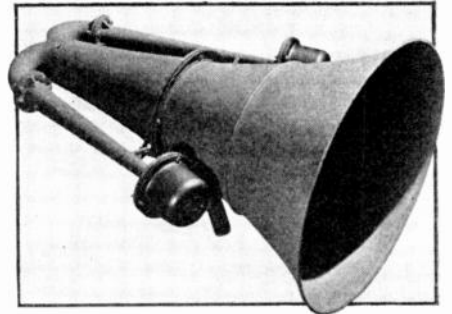

FIG. 9. LANGEVIN OUTDOOR SPEAKER
**Outdoor Horn:** The exponential horn shown in Fig. 9 is manufactured by Langevin Company, 37 W. 65 Street, New York 23, for outdoor use. It is weatherproofed with a new vitreous finish capable of withstanding high corrosion conditions. Bell diameter is 25 ins. overall length 38 ins., and width 26 ins. One or two driver units can